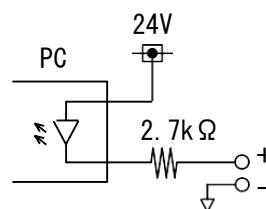

Figure 2
*2 Equivalent circuit is as the figure shown right. Connect allowable contacts (10mA or more) to two terminals. (Figure 2)